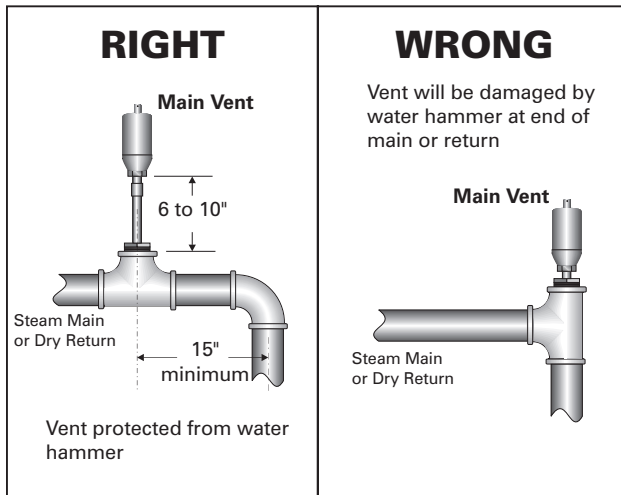

Figure 12: Correct Piping of Main Vent to Prevent Water Hammer Damage
- The steam main (and each riser) needs a **Main Vent** installed near the end. (*Never install the Main Vent on a tee at the end of the steam main. It will be quickly destroyed by water hammer. See Figure 12.*) Use smaller capacity vents on the radiators. Venting the radiators too fast will cause water hammer in the radiators because the condensate can't get out past the rushing steam.
- The air vents must be working for the building to heat properly. *The Main Vents on the steam main and risers are important for uniform heat in the building.* If they don't work, the radiator vents have to try to remove the air from the steam lines. This will cause the radiators near the boiler to heat much sooner than those further away. So some areas will be hotter than others. See Figure 12 for the correct location of the Main Vents.
- If the system has a history of **no-heat problems**, check the air vents or traps to make sure they're working. Some of them may need to be replaced. The Main and Riser vents often fail due to water hammer because of being piped too close to the ends of mains or dry returns. See Figure 12.
- The steam main piping Main Vent is often piped at the very end of the main on a tee. This can lead to quick failure of the vent due to water hammer at the end of the steam main. **Figure 12 shows the correct way to install the Main Vent to be sure it will last.**